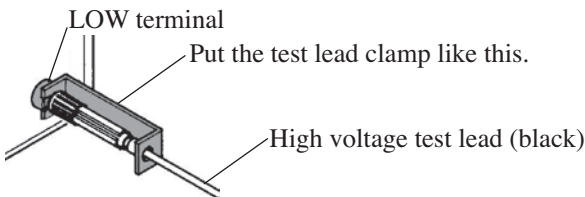

Fig. 3.2 Low terminal connection
1. Turn on (I) the POWER switch.
2. Connect the supplied high voltage test lead (black) to the LOW terminal of the tester as shown in Fig. 3.2.